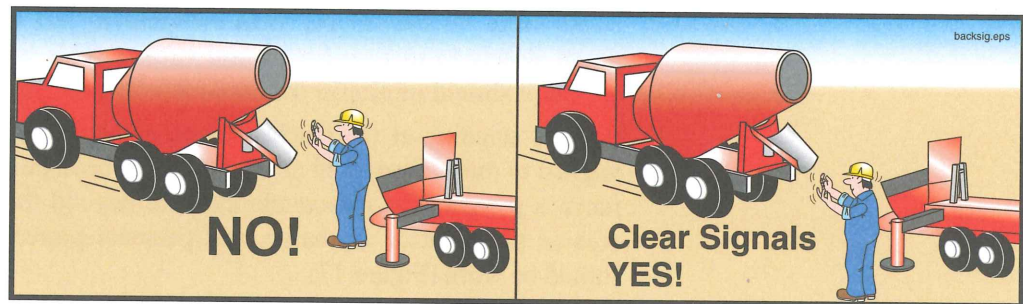

Figure 15
- 6.6 **⚠️ WARNING** **Crushing hazard!** Never, ever position yourself between a ready mix truck and the pump! Stand off to the side, so the ready mix driver can see you at all times (Figure 15).
- 6.7 **⚠️ WARNING** When backing in ready mix trucks, use clear and concise hand signals (Figure 15).